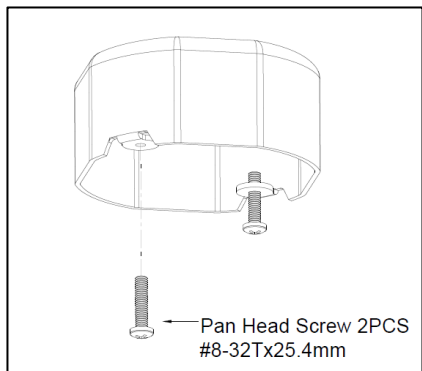

Figure 7
1. Install the 2 screws (1) from the provided assembly kit into the threaded holes on the junction box. (See Figure 7)